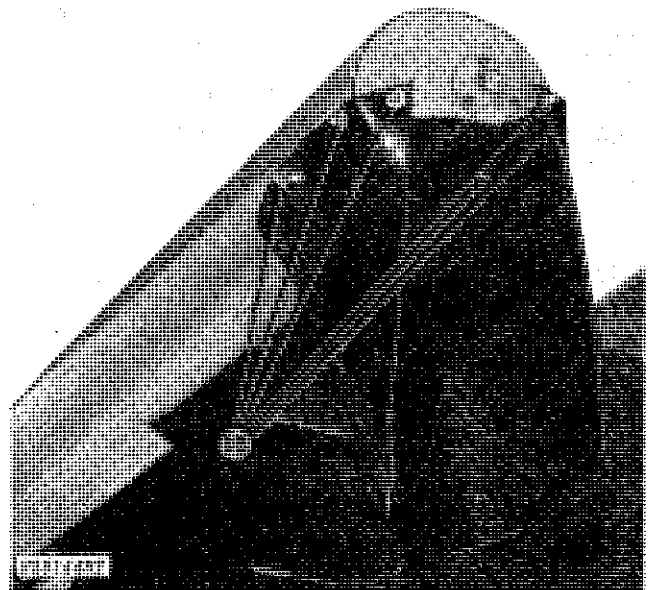

Fig. 21-Installing Auger Spout
15. Attach spout with six 5/16 x 1-inch cap screws, six 11/32 x 1-3/8 x .120-inch washers, and twelve nuts (Fig. 21).